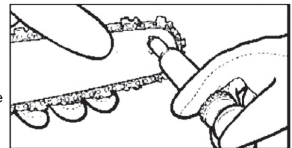

Fig. 6
3. Using disposable Lube gun, insert needle nose into the lubrication hole and inject grease until it appears at the outside edge of the sprocket tip (Fig.6).